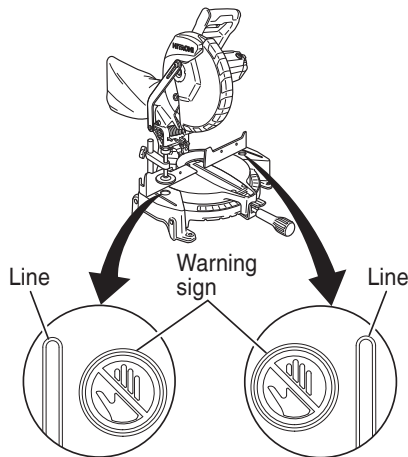

Fig. 12
- * Never place your limbs inside of the line next to warning sign while the tool is being operated. This may cause hazardous conditions (see Fig. 12).